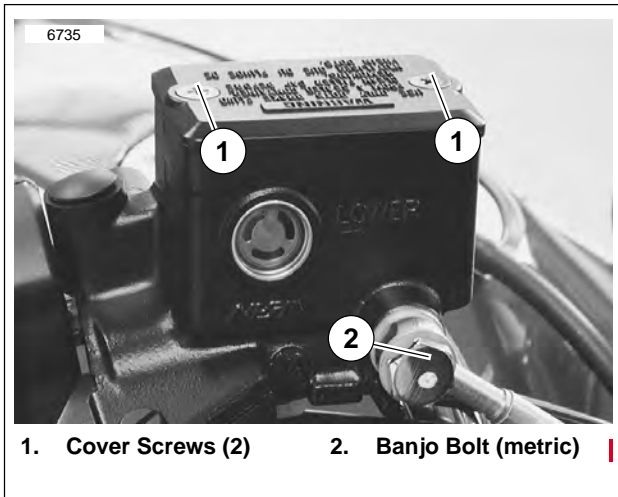

Figure 1-11. Front Master Cylinder
- b. Remove two screws from front master cylinder cover. Bring fluid level to within 1/8 in. (3.2 mm) of molded boss inside front master cylinder. See Figure 1-11.